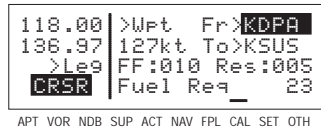

Figure 5-8
3. Turn the right outer knob clockwise to move the cursor to the "from" waypoint in the upper right corner of the screen (figure 5-8).